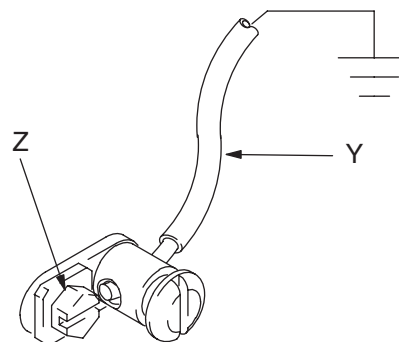

FIG. 2
**Pump:** use ground wire and clamp (FIG. 2). Remove the ground screw (Z) and insert through the eye of ring terminal at end of ground wire (Y). Fasten the ground screw back onto the pump and tighten securely. Connect ground clamp to a true earth ground.